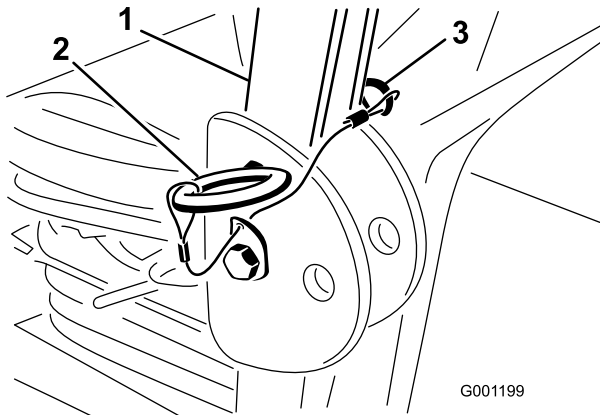

Figure 16
2. With the roll bar in the raised position, remove the hairpin cotters and the 2 pins (Figure 16).